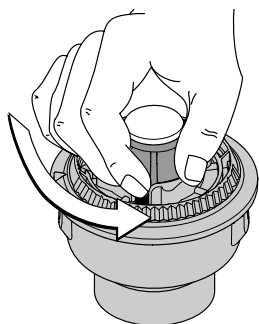

Fig. 49
1. Hold the outer spool, and unscrew the bump knob counterclockwise (Fig. 49).